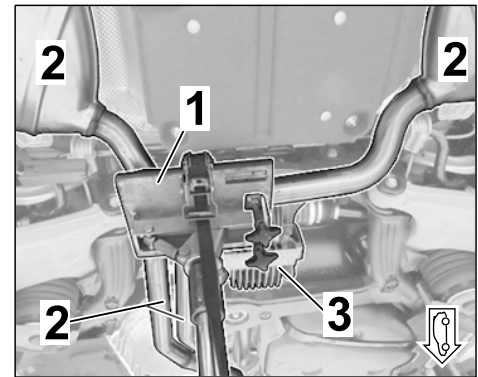

Figure 9
1.3.4 **VAS 6931 - Engine and gearbox jack** must be positioned under the exhaust system (in transfer gear area). Then, secure the exhaust system with restraining straps to prevent it from falling down (⇒ *Figure 9*).
- 3 (2) – Transfer case on rear axle